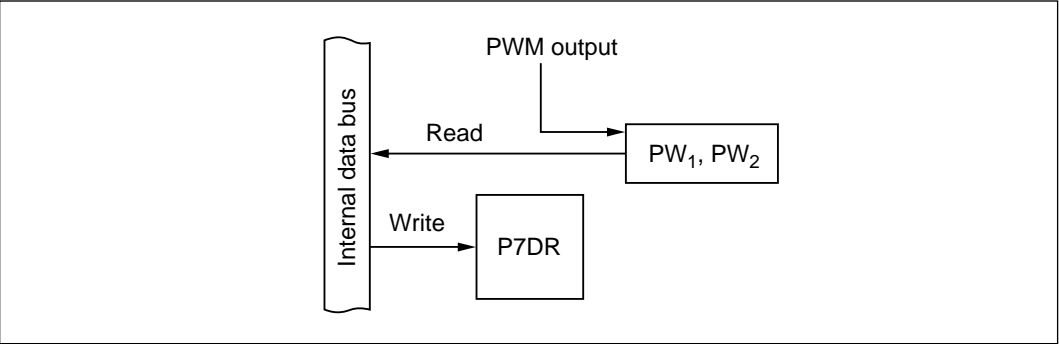

Figure 10-52 PW_2 and PW_1 Output (Modes 1 to 7)
(8) PW_2 and PW_1 Output ($P7_7$ and $P7_6$: Modes 1 to 7, H8/539 Only): Figure 10-52 shows a block diagram illustrating the PWM output function. Table 10-43 indicates register read/write data. When $P7_7$ and $P7_6$ function as PW_2 and PW_1 , data written in the port 7 data register ($P7DR$) is not output at the pins, but $P7DR$ can be read to monitor the levels of the PW_2 and PW_1 pins.